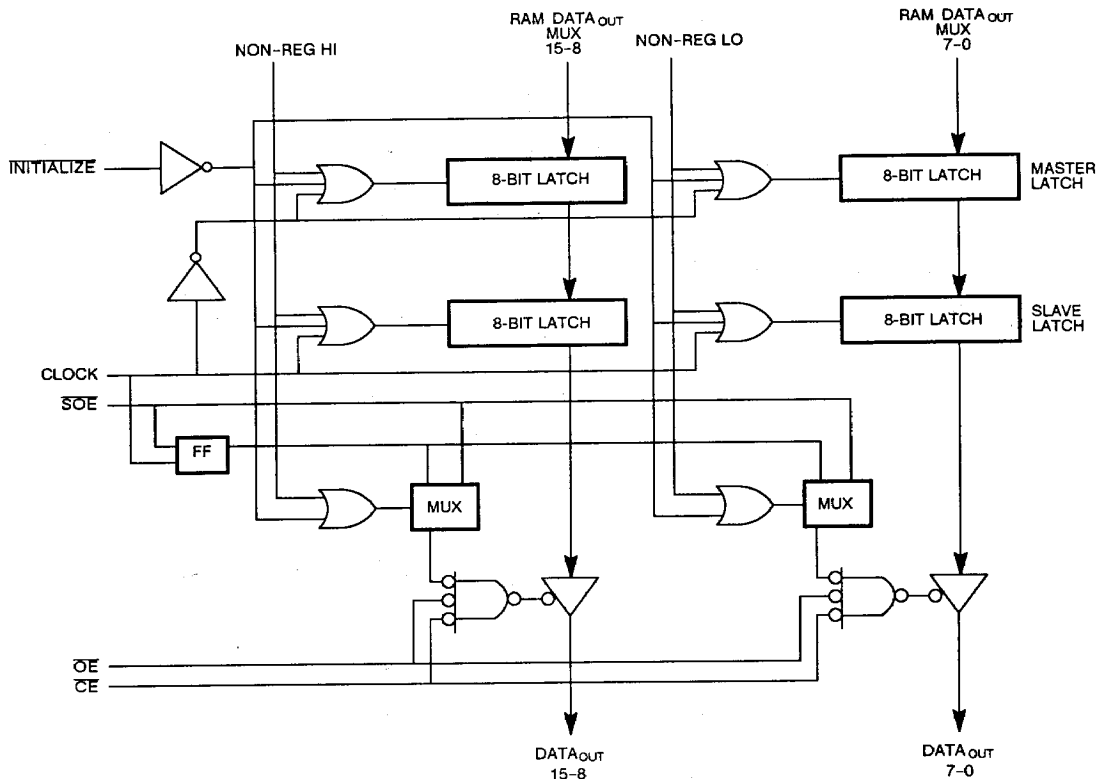

Figure 2. Output Logic Block Diagram
Two bits of the Set-up Register, Non-Reg Hi and Non-Reg Lo, can be set to cause the Pipeline Register bits 15-9 and 7-0, respectively, to be set to the flow-through mode. In the flow-through mode, both latches of the register are open and the register acts like a simple buffer with its output following its input. This allows the user to have some non-registered bits in microcode applications. The output circuit consisting of the Pipeline Register, the Synchronous Output Enable (SOE), and the Output Enable (OE), has some special logic to support this mode, as shown in Figure 2.
Also, activating the Initialize pin causes the Pipeline Register to be put in the flow-through mode. Figure 2 shows the Pipeline Register as two latches operated in the MASTER/SLAVE configuration. The clock input will cause the latch pair to work as a register. If the Initialize pin is activated, both registers will be placed in the flow-through mode by the OR gates. Also, if either Non-Reg bit is set, its corresponding 8-bit portion of the register will be placed in the flow-through mode.